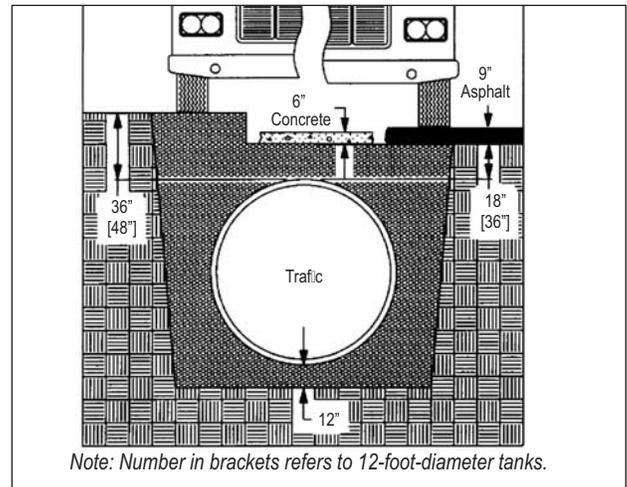
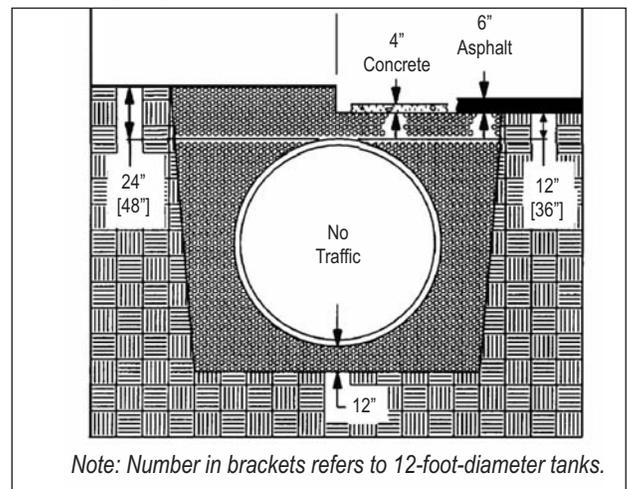

FIGURE 5-1
FIGURE 5-2
5.2.2. For additional requirements and specifications, refer to federal, state and local codes; and *FIGURE 5-1* and *FIGURE 5-2*.
5.2.3.1. Tanks subjected to traffic loads (H-20 loads) must have a cover depth of at least 36 inches of backfill [48 inches for 12-foot-diameter tanks], or 18 inches of backfill [36 inches for 12-foot-diameter tanks] plus 6 inches of reinforced concrete or 9 inches of asphalt. (See *FIGURE 5-1*.) **In a wet condition, sufficient over-**
5.2.3.2. Tanks not subjected to traffic loads must have a cover depth of at least 24 inches of backfill [48 inches for 12-foot-diameter tanks], or 12 inches of backfill [36 inches for 12-foot-diameter tanks] plus 4 inches of reinforced concrete or 6 inches of asphalt. (See *FIGURE 5-2*.) **In a wet condition, sufficient overburden and/or an appropriate anchoring system must be present to offset buoyancy of the tank.**